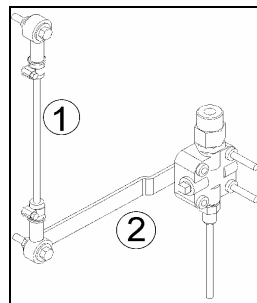

FIGURE 3 : HEIGHT CONTROL VALVE
4. Locate the height control valve (figure 3) at center of front sway bar. Disconnect the connecting rod • and pull down the overtravel lever • to ensure all air is exhausted from front air springs.
4. Locate the height control valve (figure 3) at center of front sway bar. Disconnect the connecting rod ● and pull down the overtravel lever ● to ensure all air is exhausted from front air springs.